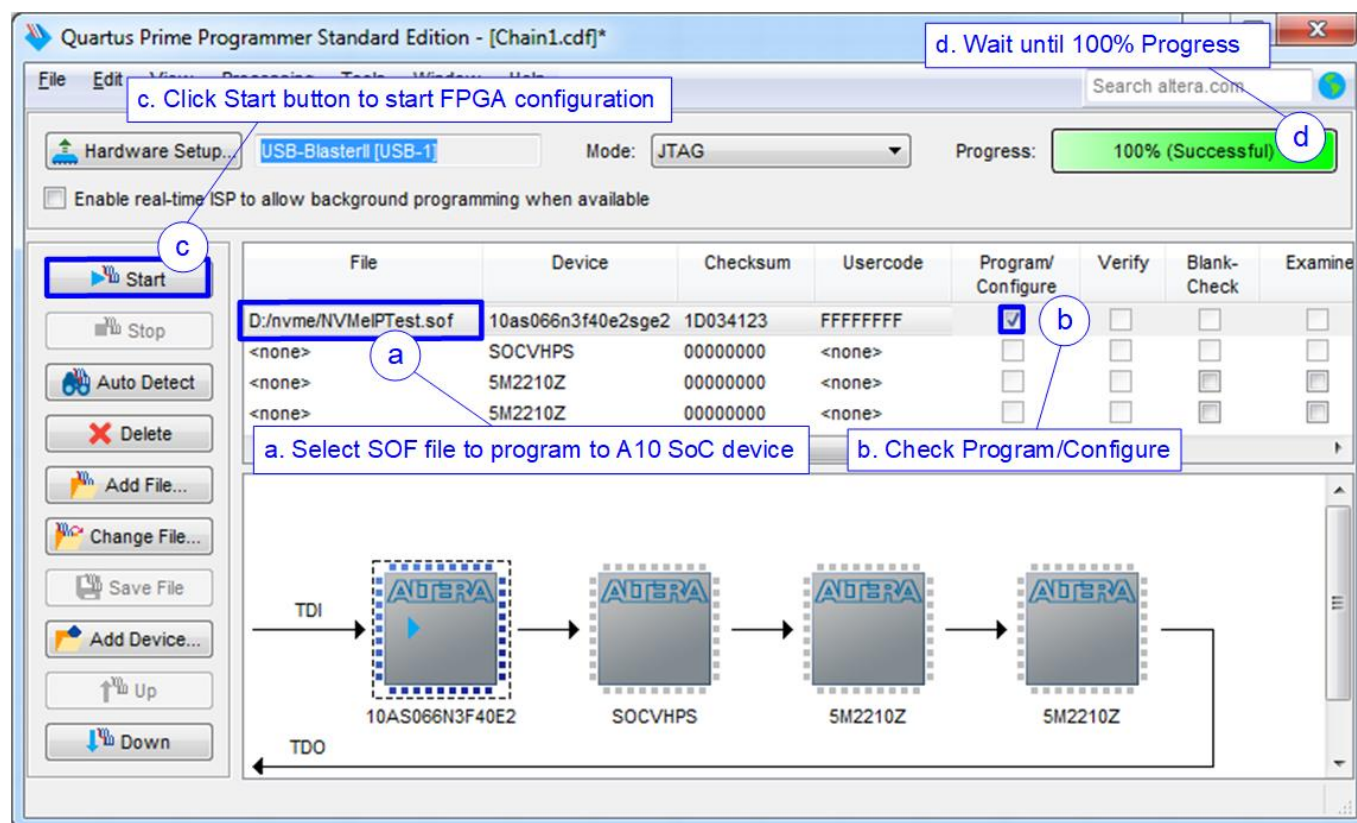

Figure 2-9 Programmed by QuartusII Programmer
- 1) Use QuartusII Programmer to program “NVMeIPTest.sof” file, as shown in Figure 2-9.